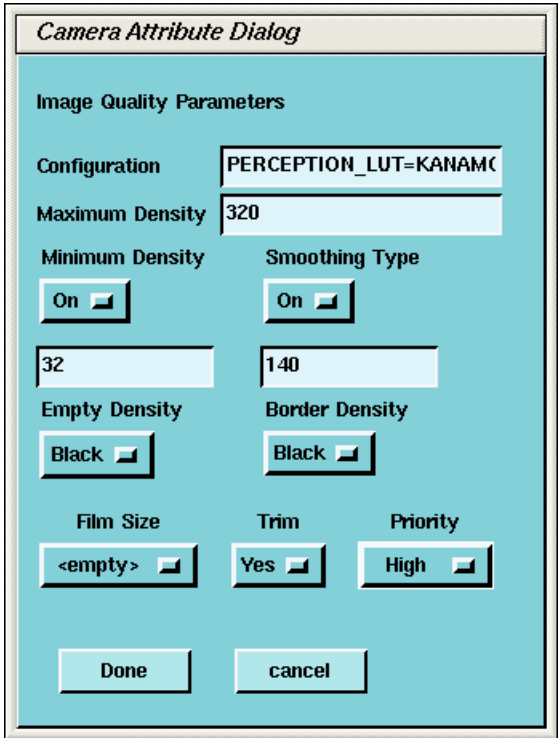

Figure 12-15 Advanced Parameters (Camera Attribute Dialog)
- h.) After the camera has been configured, click the ADVANCED button. This creates the camera device file for you automatically and pops up the Advanced Parameters screen. See Figure 12-15.